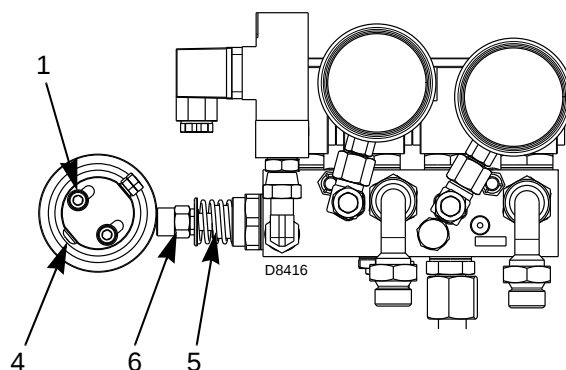

Fig. 27
- 5 Adjust the return pressure to a minimum of approx. 4 bar. To do this, the length of the shaft 5)(Fig. 27) must be adjusted, by turning the nut 6).
flame and to reach maximum output as soon as possible (maximum run for the servomotor 130°): set the return pressure on the eccentric screw 4)(Fig. 27) to obtain the output required by the nozzle and then continue with setting the intermediate levels.